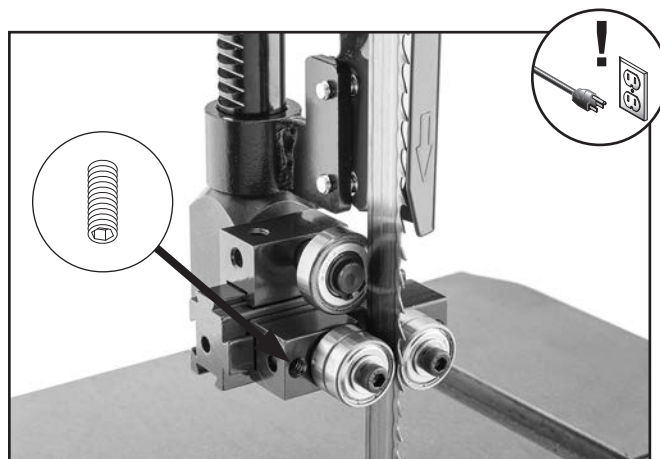

Figure 7. Guide block adjustment location.
4. Loosen set screw on left guide block shown in **Figure 7**.